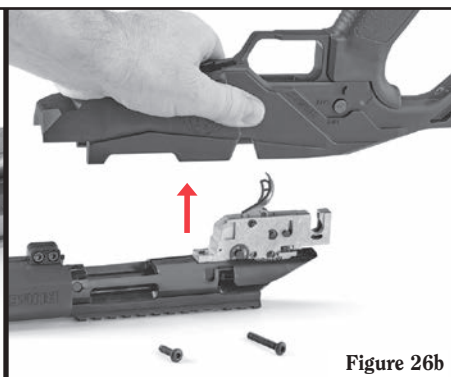

Figure 26b
d. Lift the barreled-action out of the stock. (See Figure 26b.) **If the safety selector switch drops out of the stock, refer to “Reversing the Safety Selector Switch,” p. 31, for instructions on how to reinstall it.**